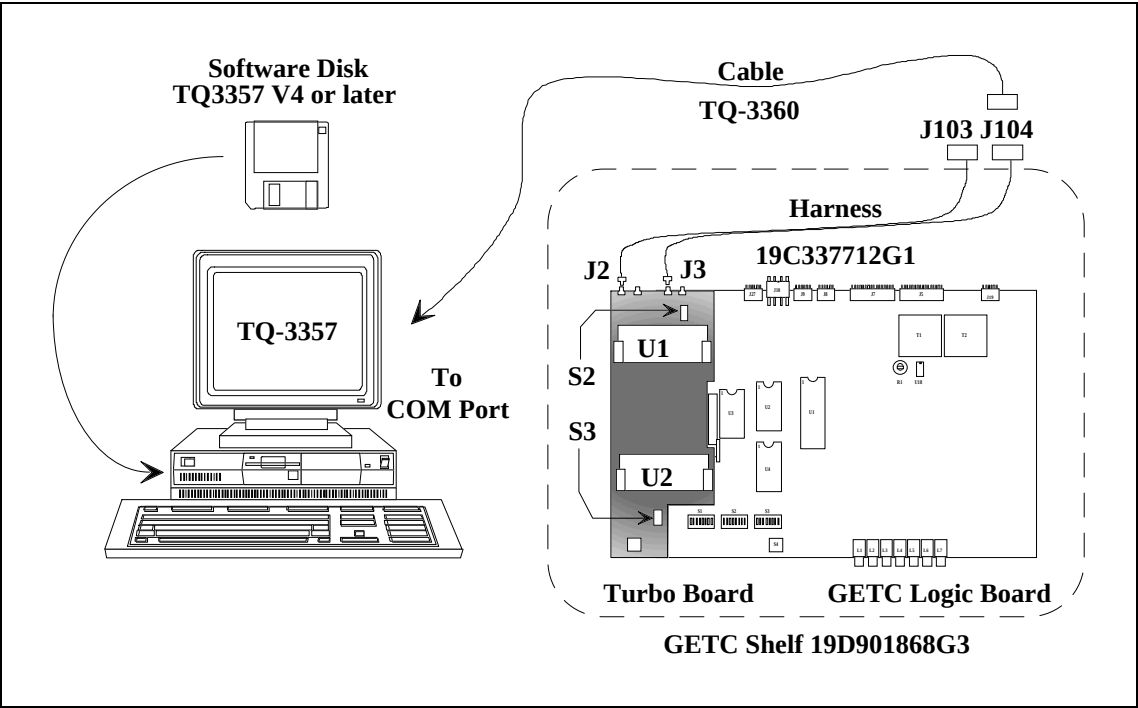

Figure 7 - System Hook-Up Using J104
- 1. One end of the serial programming cable (TQ-3360) should be connected to the computer. The other end of the serial cable connects to the GETC Shelf connector J104. See Figure 7.
- 2. Move Switch S2 on the Turbo Board to the front placing the GETC into the Personality Programming mode. See Figure 7.